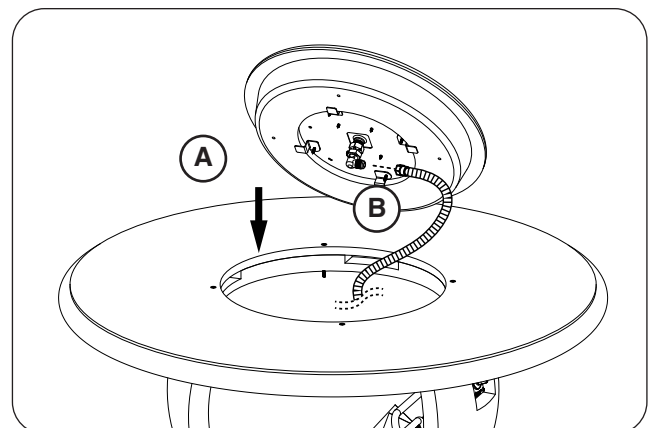

Fig. 28-4 Place burner and connect flex
5. Drop the burner assembly into the opening in the center of the firetable top (see Fig. 28-4, A).
6. Locate the flex connector (marked OUT) that is coming off the valve assembly. Route it to the connection found on the underside of the burner assembly and connect. Tighten securely. See Fig. 28-4, B.